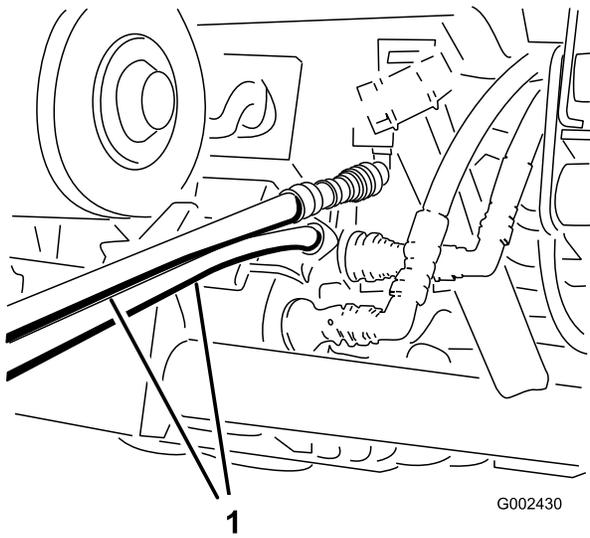

Figure 94
- On the other vehicle, connect the 2 hoses to the coupler still in the coupler bracket (connect the top hose to the top coupler and the bottom hose to the bottom coupler) (Figure 94).